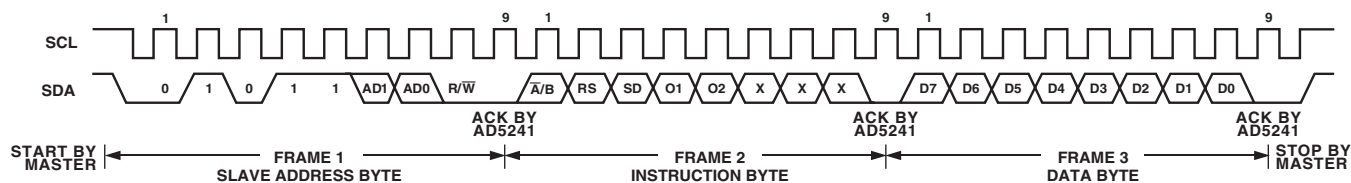
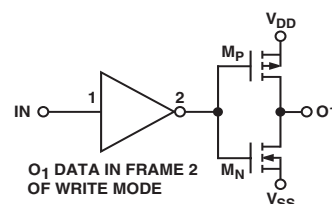

Figure 2. Writing to the RDAC Serial Register
Figure 7. Output Stage of Logic Output O_1
Referring to Figures 2 and 3, the first byte of AD5241/AD5242 is a Slave Address Byte. It has a 7-bit slave address and an R/ \overline{W} Bit. The 5 MSBs are 01011 and the following two bits are determined by the state of the AD0 and AD1 Pins of the device. AD0 and AD1 allow users to use up to four of these devices on one bus.
1. The master initiates data transfer by establishing a START condition, which is when a high-to-low transition on the SDA line occurs while SCL is high (Figure 2). The following byte is the Slave Address Byte, Frame 1, which consists of the 7-bit slave address followed by an R/ \overline{W} Bit (this bit determines whether data will be read from or written to the slave device).
Pin except that $\overline{\text{SHDN}}$ Pin reacts to active low. The following two bits are O_2 and O_1 . They are extra programmable logic outputs that users can use to drive other digital loads, logic gates, LED drivers, analog switches, and the like. The three LSBs are Don't Care. See Figure 2.
- After acknowledging the Instruction Byte, the last byte in Write Mode is the Data Byte, Frame 3. Data is transmitted over the serial bus in sequences of nine clock pulses (eight data bits followed by an Acknowledge Bit). The transitions on the SDA line must occur during the low period of SCL and remain stable during the high period of SCL (Figure 2).
- When all Data Bits have been read or written, a STOP condition is established by the master. A STOP condition is defined as a low-to-high transition on the SDA line while SCL is high. In Write Mode, the master will pull the SDA line high during the tenth clock pulse to establish a STOP condition (see Figure 2). In Read Mode, the master will issue a No Acknowledge for the ninth clock pulse (i.e., the SDA line remains high). The master will then bring the SDA line low before the tenth clock pulse, which goes high to establish a STOP condition (see Figure 3).
Specific to the AD5242 dual-channel device, the channel of interest is the one that was previously selected in the Write Mode. In addition, to read both RDAC values consecutively, users have to perform two write-read cycles. For example, users may first specify the RDAC1 subaddress in the Write Mode (it is not necessary to issue the Data Byte and the STOP condition), then change to the Read Mode and read the RDAC1 value. To continue reading the RDAC2 value, users have to switch back to the Write Mode and specify the subaddress, then switch once again to the Read Mode and read the RDAC2 value. It is not necessary to issue the Write Mode Data Byte or the first stop condition for this operation. Users should refer to Figures 2 and 3 for the programming format.
AD5241/AD5242 feature additional programmable logic outputs, O_1 and O_2 , that can be used to drive digital load, analog switches, and logic gates. They can also be used as self-contained shutdown as preset to logic 0 feature which will be explained later. O_1 and O_2 default to logic 0 during power-up. The logic states of O_1 and O_2 can be programmed in Frame 2 under the Write Mode (see Figure 2). Figure 7 shows the output stage of O_1 which employs large P and N channel MOSFETs in push-pull configuration. As shown, the output will be equal to V_{DD} or V_{SS} , and these logic outputs have adequate current driving capability to drive milliamperes of load.